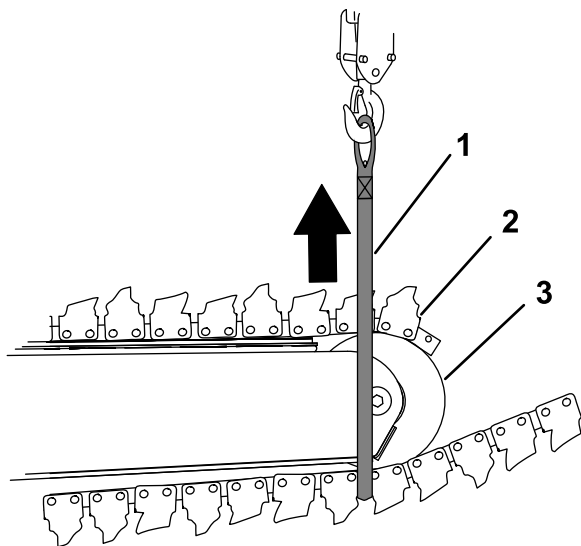

Figure 19
5. Shut off the auxiliary hydraulics when the end of the chain is positioned on top of the idler wheel (Figure 19).
1. At the end of the chain laying on the ground, loop the lifting strap around the chain at the digging tooth of the fifth or sixth link of the chain (Figure 19).
2. Raise the chain and position it around the idler wheel (Figure 19 and Figure 14).